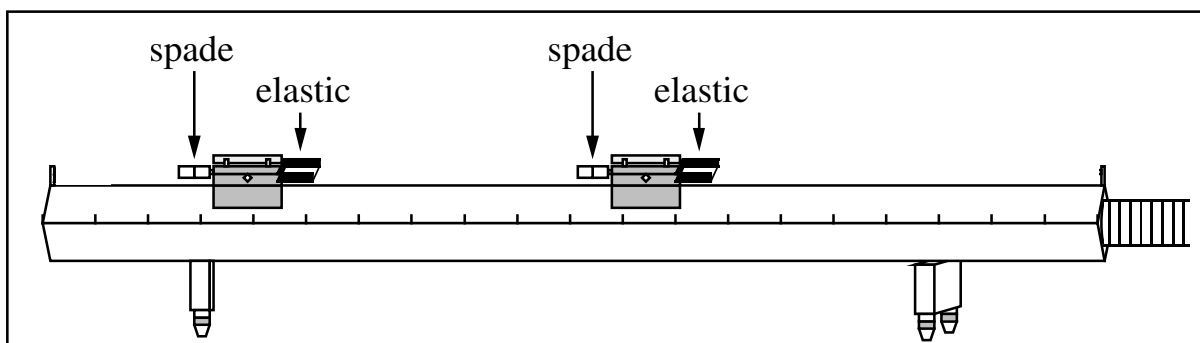

Figure 2: Sketch of the glider configuration for elastic collisions.
1. Affix spade and elastic to both gliders (see Fig. 2); add masses to one glider (henceforth “glider #1”). Measure the mass of each glider, and the uncertainty in each measurement. Record your data in a spreadsheet. Specify units for all data.